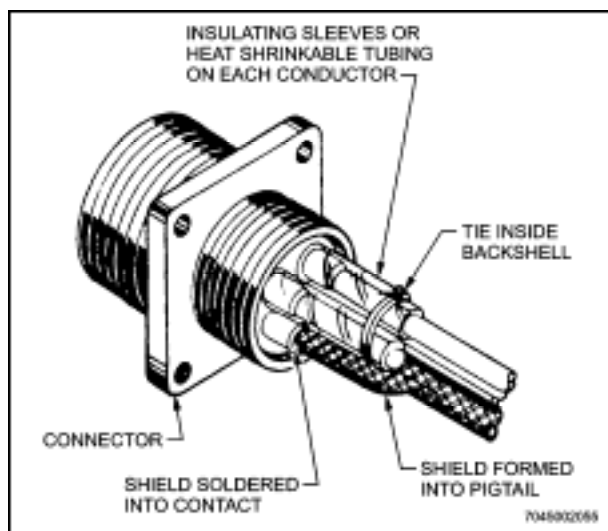
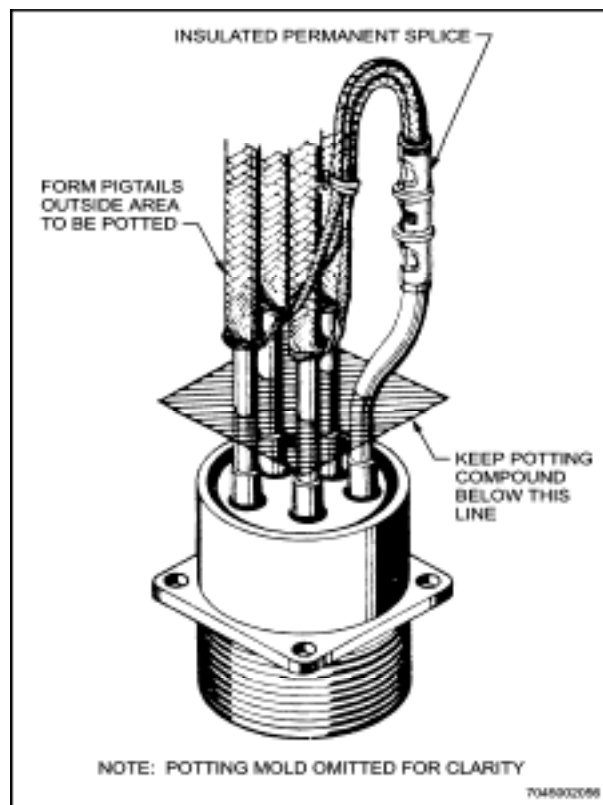

Figure 10-27 Terminating Shielded Wire at MS Connector
Figure 10-28 Terminating Shielded Wires at Potted Connector
50. Terminate shielded wire as described in Section 2, Chapter 3. For connection to non-environmental resistant connectors, shield must end inside back shell as shown in Figure 10-27. For connection to environmental resistant connectors with rear wire seal or potted connectors, shield must end outside seal. Splice pigtail to short length of wire that is then terminated inside connector to a contact in the regular manner, as shown in Figure 10-28.
- a. Form pigtail from shield outside connector area (see Figure 10-28).
- (1) For potted connector, pigtail should start 1 inch (25mm) from end of wire.
- (2) For other connectors, pigtail should start far enough back to remain outside cable clamp.
- c. Crimp pigtails together into one end of permanent splice (see Figure 10-28).
- f. Solder or crimp single wire to proper contact in connector as shown in Figure 10-28.